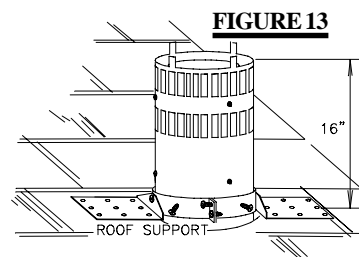

FIGURE 13
1. Fasten the roof support to the roof using the screws provided. **FIGURE 13.** The roof support is optional. In this case the venting is to be adequately supported using either an alternate method suitable to the authority having jurisdiction or the optional roof support.